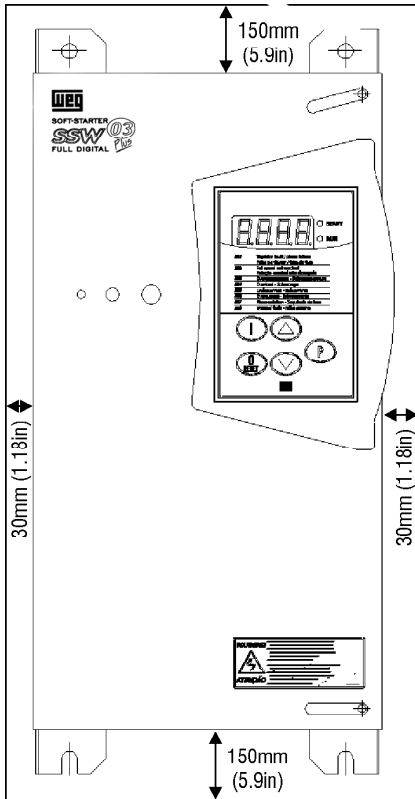

Figure 3.1 - Free space for ventilation
- ☑ Allow for free space around the SSW-03 Plus, as shown in Figure 3.1.